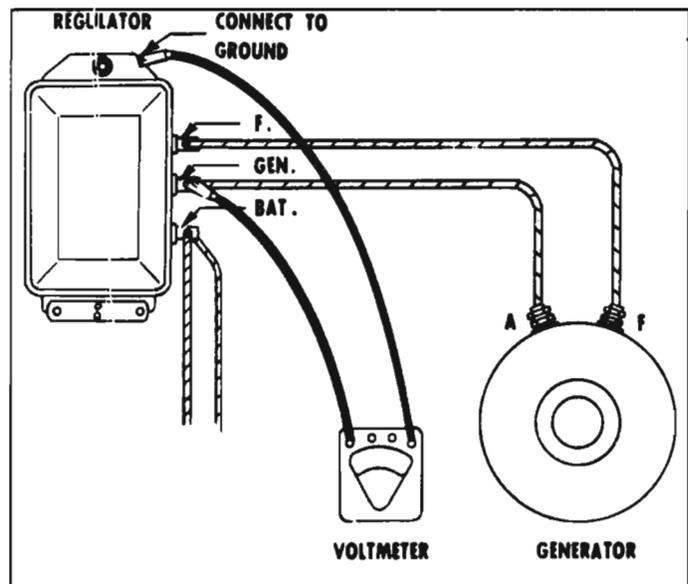

Fig. 8-10—Checking Cutout Relay Closing Voltage
1. Connect a voltmeter between the regulator "GEN" terminal and ground (fig. 8-10).